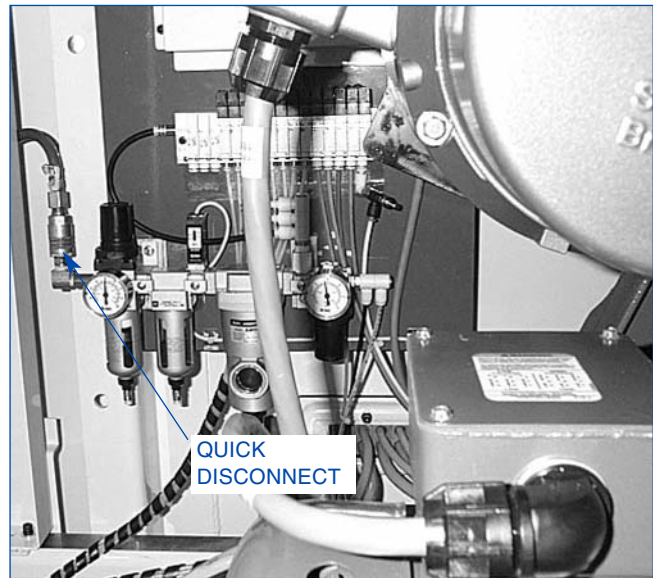

FIGURE 1-5, Filter Regulator
10. CONNECT factory air supply line to 1/8 BSPT threaded fitting on airline Filter Regulator (see Figure 1-5).